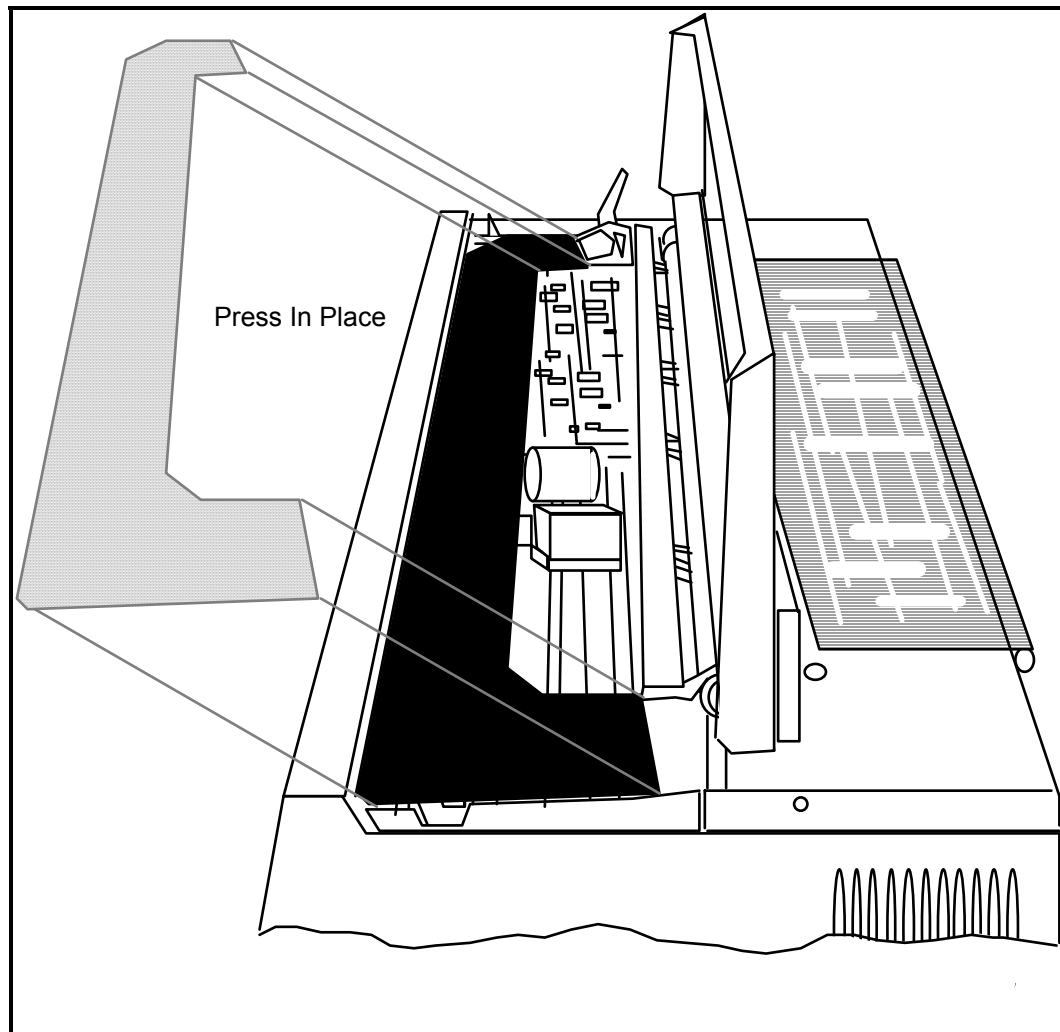

Figure 18-7 — Ribbon Cartridge Alignment 1741
- Step 10. Push the cartridge gently down until it snaps into place (Figure 18-7).